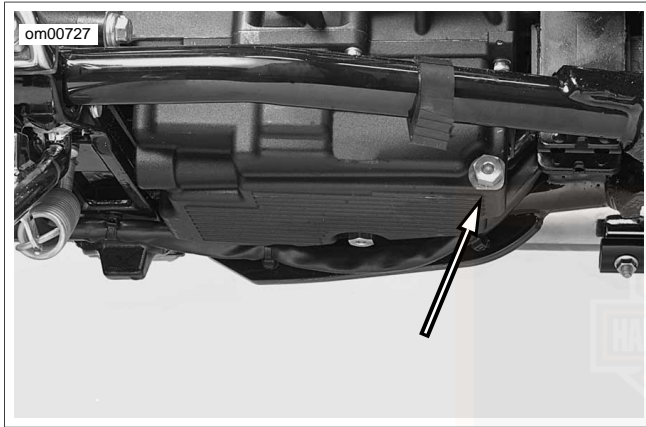

Figure 24. Engine Oil Drain Plug (oil pan under transmission, view from left side of vehicle)
3. See Figure 24. Remove the engine oil drain plug with o-ring. Allow oil to completely drain into a suitable container.
6. See Figure 24. Install oil tank drain plug.